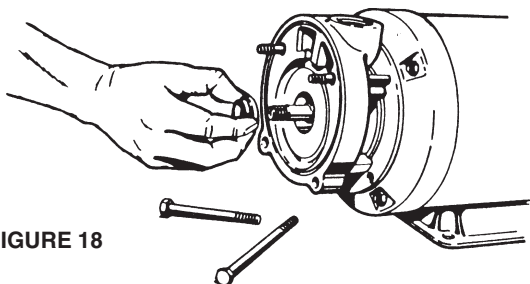

FIGURE 18
- c. Install the four (4) "O" rings (#8) on the two studs. This will help hold the bracket in place during the remainder of the assembly operation.
- c. It is generally easier to remove the entire head or sealing assembly from the spring and install it on the motor shaft. Refer to Figure 18. This assembly lifts out of the rotating element spring.